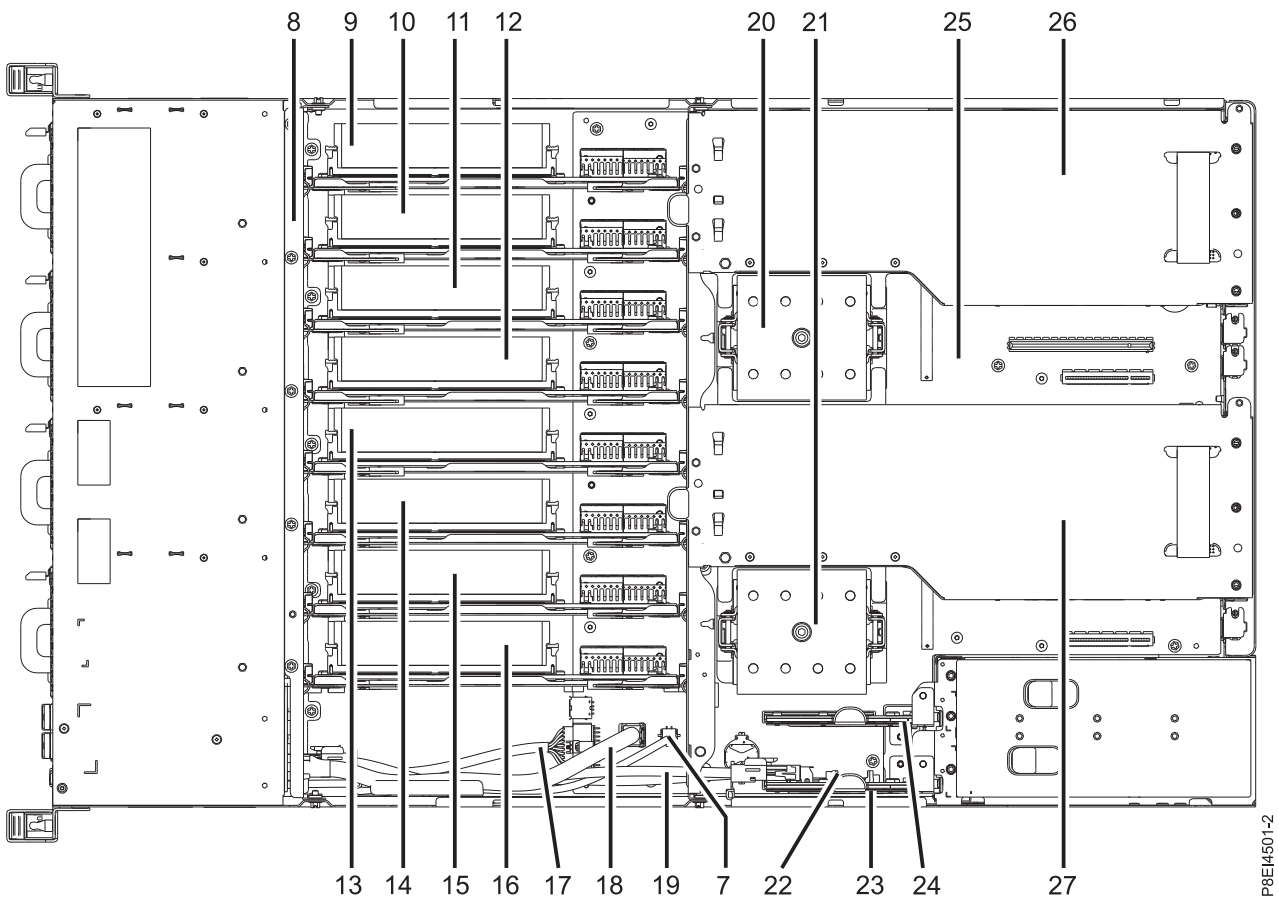

Figure 92. Location of the memory risers; positions 9 through 16
2. Locate the memory riser. Figure 92 shows the location of the memory risers in the 8335-GTB system.